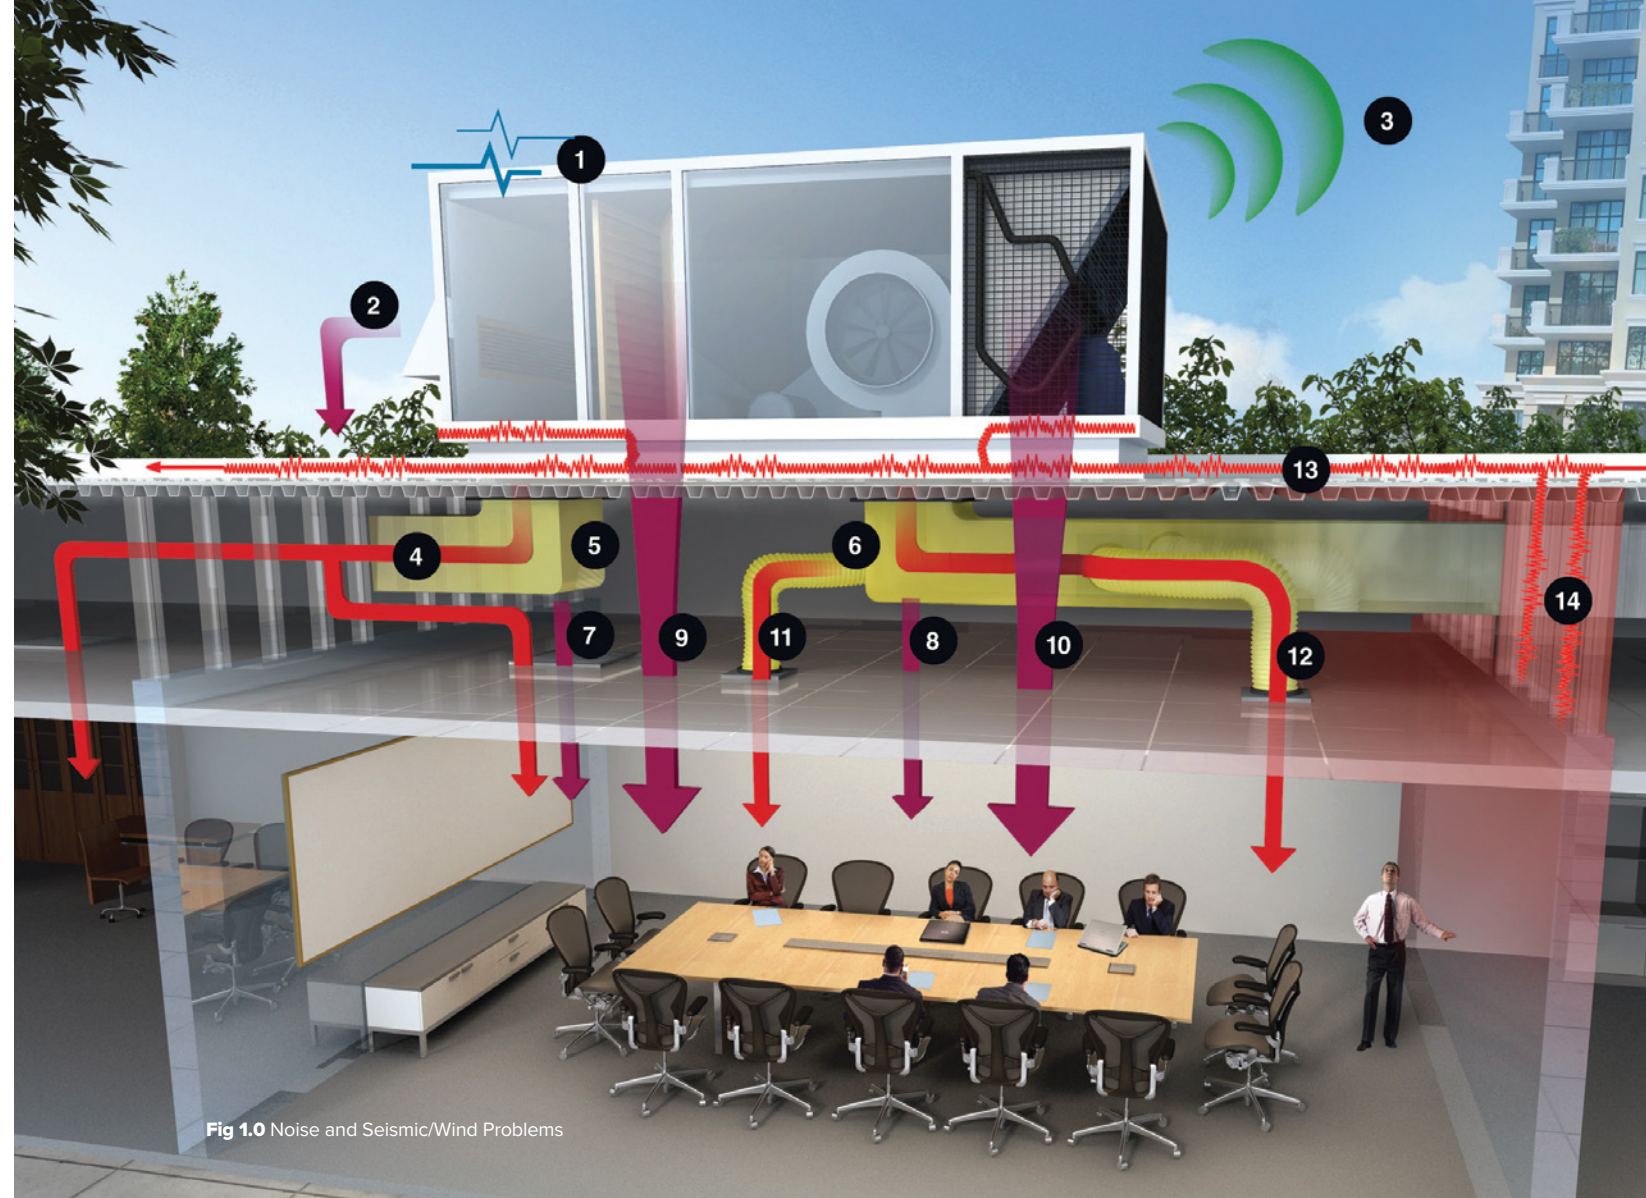

Fig 1.0 Noise and Seismic/Wind Problems
**THERE ARE MANY** RTU noise paths, such as airborne noise, duct breakout noise, and structure-borne noise (see fig 1.0 for complete list). Any of these paths, if not treated correctly, can create a noise problem. Unfortunately, solving the problem is not as simple as attenuating each of these paths. System complexity, such as fan orientation within an RTU and ductwork design, also needs to be considered.